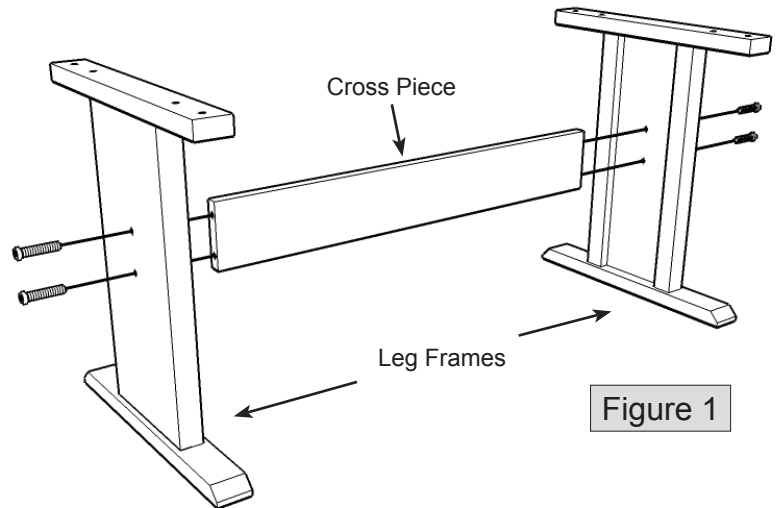

Figure 1
2. Connect the center cross piece between the two leg frames as shown in figure 1. Attach at each end using 2" Allen bolts. Keep bolts slightly loose for now.